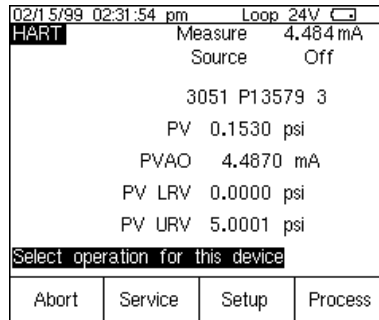

Figure 5
1. Power on the Fluke 744 Calibrator. Press the red  key followed by the **Loop Power** softkey and the 744 will display the basic HART information for the 3051 (Figure 5).